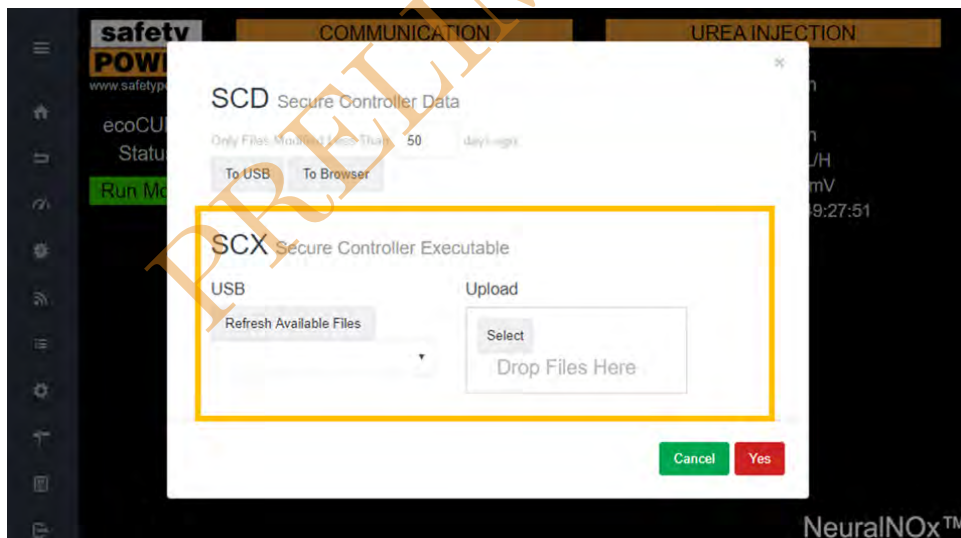

Figure 8.3: Use the outlined portion of the window to upload and execute updates to the controller
4. On the pop-up window, press the **Refresh Available Files** button to generate a list of available .scx files on the USB stick (Figure 8.3)
4. On the pop-up window, upload the desired .scx update file into the **Upload** box under the SCX section and press **Yes** at the bottom of the window (Figure 8.3)